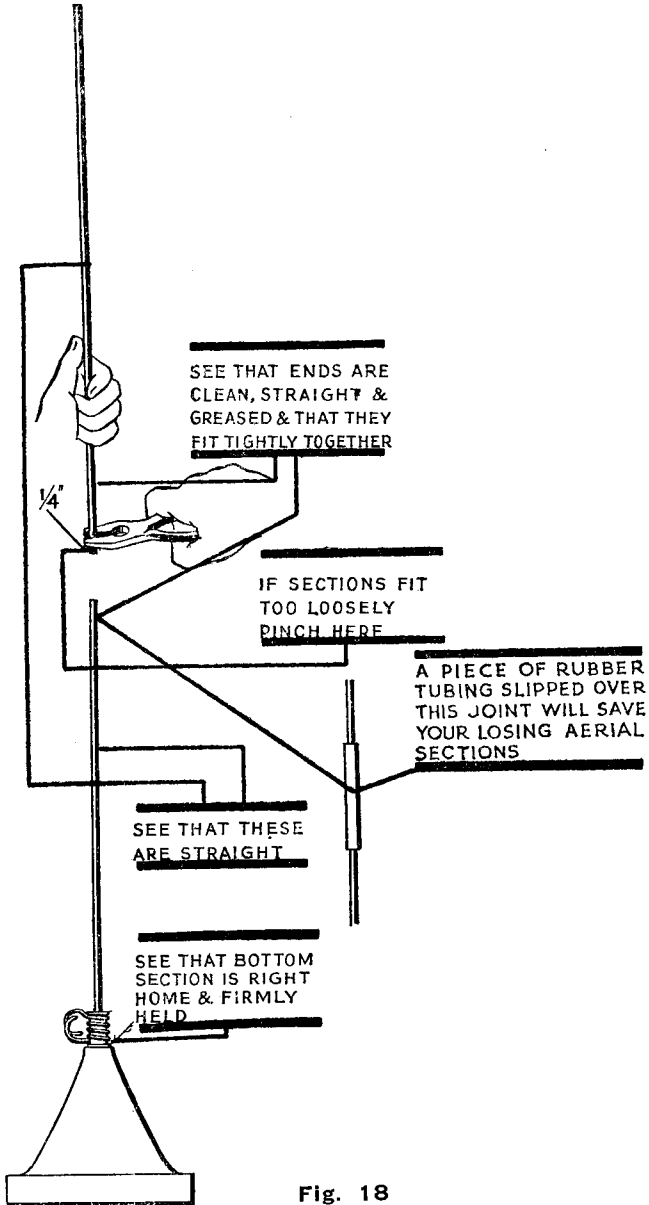

Fig. 18
- (c) Overhaul the rod aerial. (See Fig. 18.)